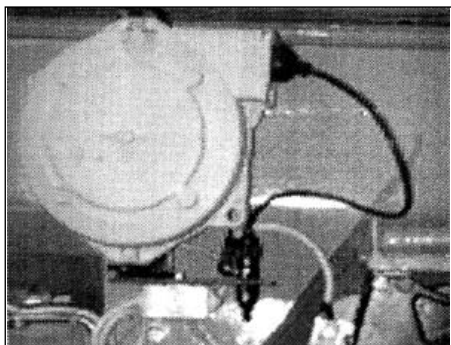

fig. 47
- Insert the flying drive in the pin placed in the cable winder. (Fig. 47).